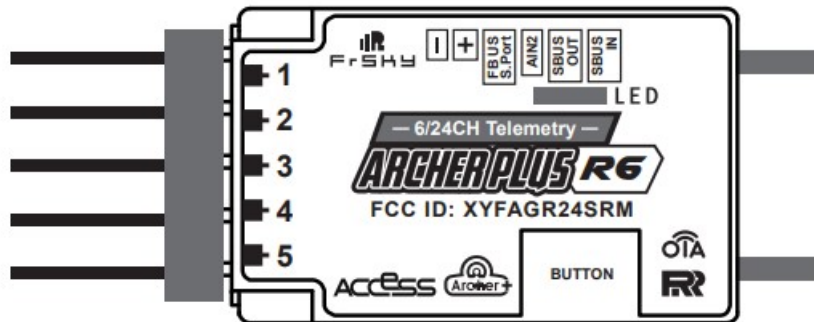

Figure 35: Archer Plus R6
- Telemetry power cable connected to AIN2. (Figure 35)
ii. On the Archer Plus R6, hold down the receiver button while powering up the Archer Plus R6. (Figure 35)